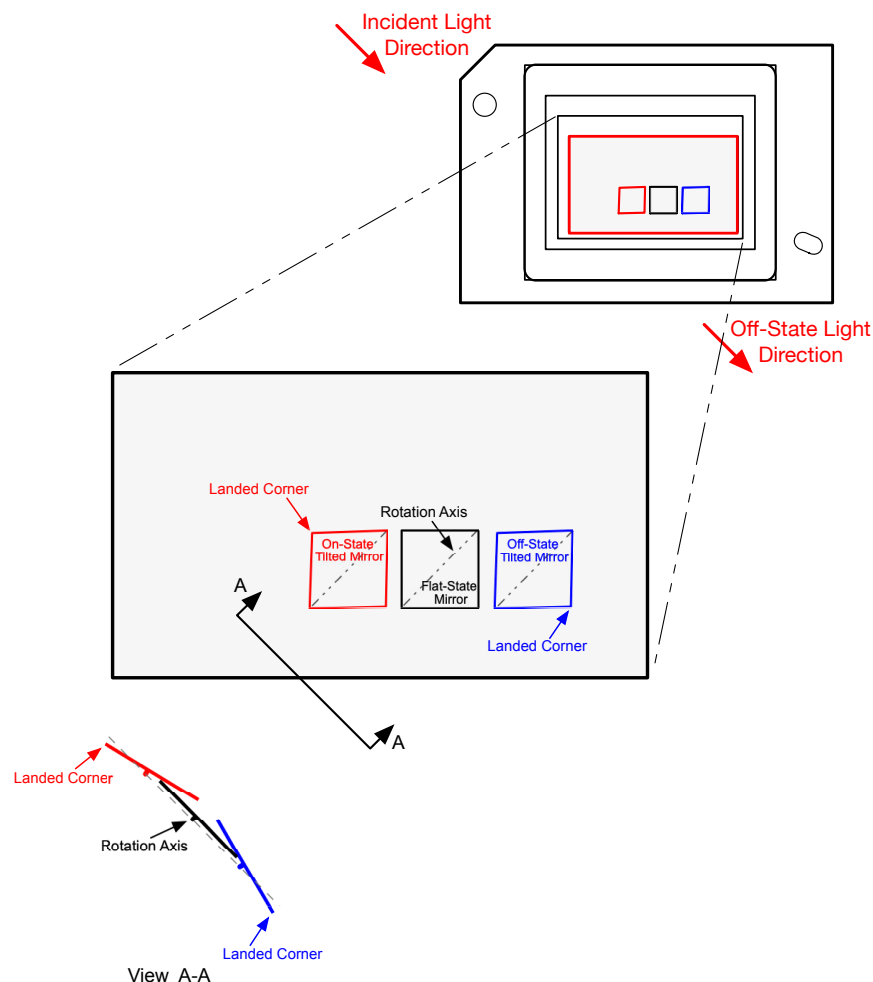

Figure 6-16. Micromirror Landed Orientation and Tilt
- (1) Measured relative to the plane formed by the overall micromirror array.
- (2) Represents the landed tilt angle variation relative to the nominal landed tilt angle.
- (3) Represents the variation that can occur between any two individual micromirrors, located on the same device or located on different devices.
- (4) For some applications, it is critical to account for the micromirror tilt angle variation in the overall system optical design. With some system optical designs, the micromirror tilt angle variation within a device may result in perceivable non-uniformities in the light field reflected from the micromirror array. With some system optical designs, the micromirror tilt angle variation between devices may result in colorimetry variations, system efficiency variations or system contrast variations.
- (5) When the micromirror array is landed (not parked), the tilt direction of each individual micromirror is dictated by the binary contents of the CMOS memory cell associated with each individual micromirror. A binary value of 1 results in a micromirror landing in the ON State direction. A binary value of 0 results in a micromirror landing in the OFF State direction, see Figure 6-16.
- (6) The time required for a micromirror to nominally transition from one landed state to the opposite landed state.
- (7) The minimum time between successive transitions of a micromirror.
- (8) Conditions of Acceptance: All DMD image performance returns will be evaluated using the following projected image test conditions:
- (9) Bright pixel definition: A single pixel or mirror that is stuck in the ON position and is visibly brighter than the surrounding pixels